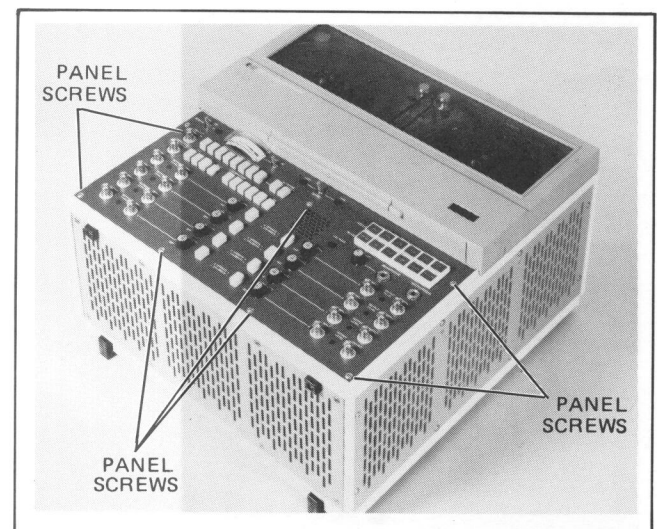

Figure 5-27. Control Panel Removal
b. Remove the seven screws which hold it in place (see Figure 5-27).